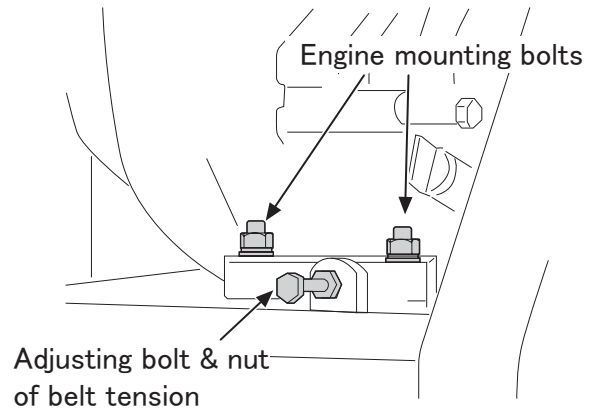

Fig. 5
3. Rotating "Adjust bolt & nut of belt tension" clockwise, the belt tension will be increased. (Fig.5)